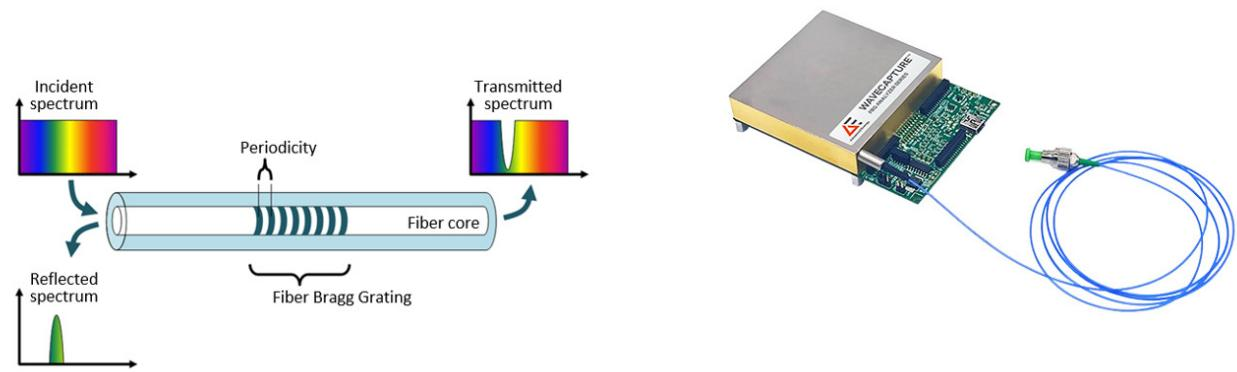

FIGURE 5 – left : light interrogation and spectral response of the FBG – right : packaged FBG sensor module.
7. Propose an optical arrangement and procedure for dynamically **measuring the temperature** of a **fixed object**, like e.g. a metal bar. Clearly specify the list and connections of the various components and optical devices used. **You can use the diagram in the Appendix (figure 5) as a guide.**